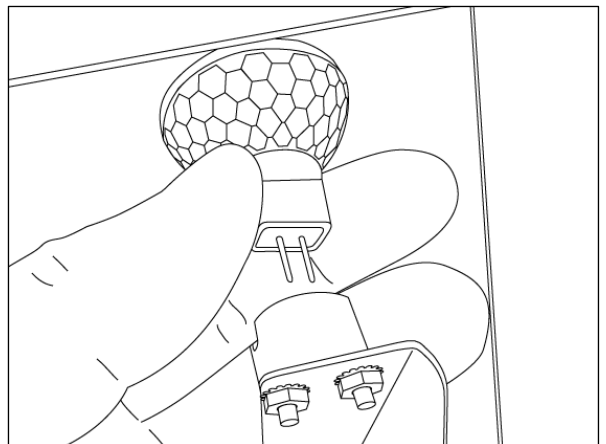

Figure 6-4
5. While wearing gloves, gently pull the old halogen light bulb out of its fixture (Figure 6-4).